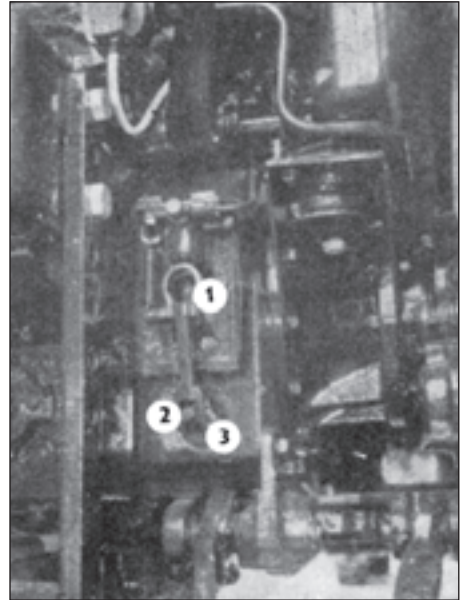

Fig. 190
After removing the cover from the brake cylinder, adjust the self-locking adjusting nuts (Fig. 190/1) on the right and the left side as follows:
- tighten the self-locking adjusting nut (Fig. 190/1) until it is no more possible to rotate the rear wheel by hand,
Repeat the same procedure on the other wheel. This adjustment can be repeated several times during the tractor operation, but when the end of the draw rod protrudes the adjusting nut (Fig. 190/1) by 10 mm or when the braking effect decreases (the disk brake lugs bear against the bearing surface of the brake housing), the brakes are to be inspected and the brake plates replaced.
After the adjustment of the foot brake check the hand brake state. The hand brake lever (Fig. 48/1) has to be in its basic (brake-off) position. The self-locking nut on the hand brake rod (Fig. 190/2) must be in contact with the brake lever pin (Fig. 190/3). If not, carry out the supplementary adjustment, however, take care not to move the disk brake lever from its basic position.
After completing this basic adjustment check the effectiveness of the foot brakes, whether both brakes have the same effect. If not, slacken the adjusting nut (Fig. 190/1) on the brake with the greater braking effect by the necessary value, but not more than by 1 turn.
Notice: Replace the self-securing adjusting nut M 12 (Fig. 190/1) by a new one every time when dismantling the brakes. Replace the self-securing adjusting nut M 8 (Fig. 190/2) by a new one every time when dismantling the hand brake draw rod.